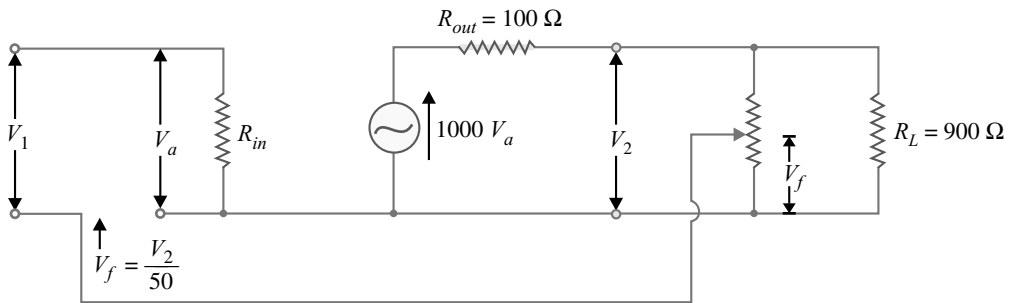

Fig. 11.8
**Solution.** Fig. 11.8 shows the equivalent circuit of an amplifier along with the feedback circuit.